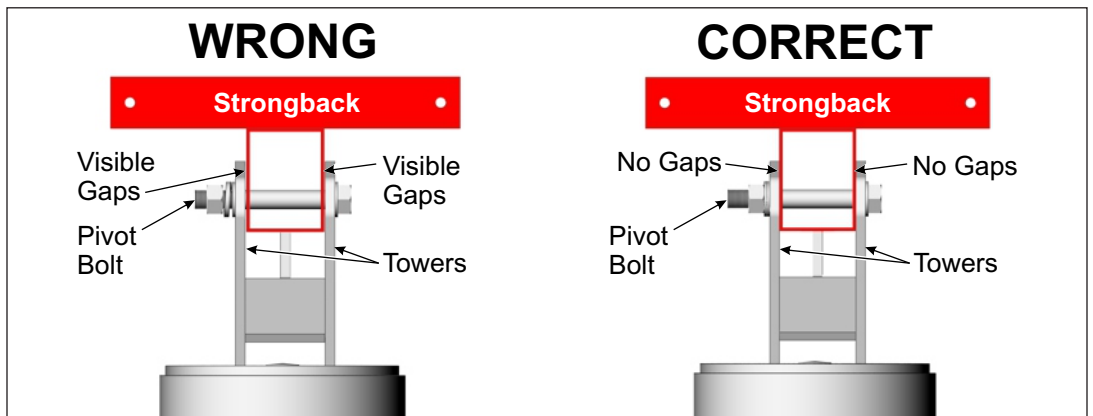

Figure 7-3: Tighten and Torque the Pivot Bolt
- C. Re-tighten the Pivot Bolt. After changing the tilt angle and tightening the Support Bar hardware, the Pivot Bolt must be re-tightened. The Pivot Bolt cannot be left loose - the Mounting Sleeve Vertical Towers must be firmly clamped to the sides of the Strongback eliminating any gaps between the Vertical Towers and the Strongback. **Torque to 125-150 ft.-lbs.** (See Figure 7-3)